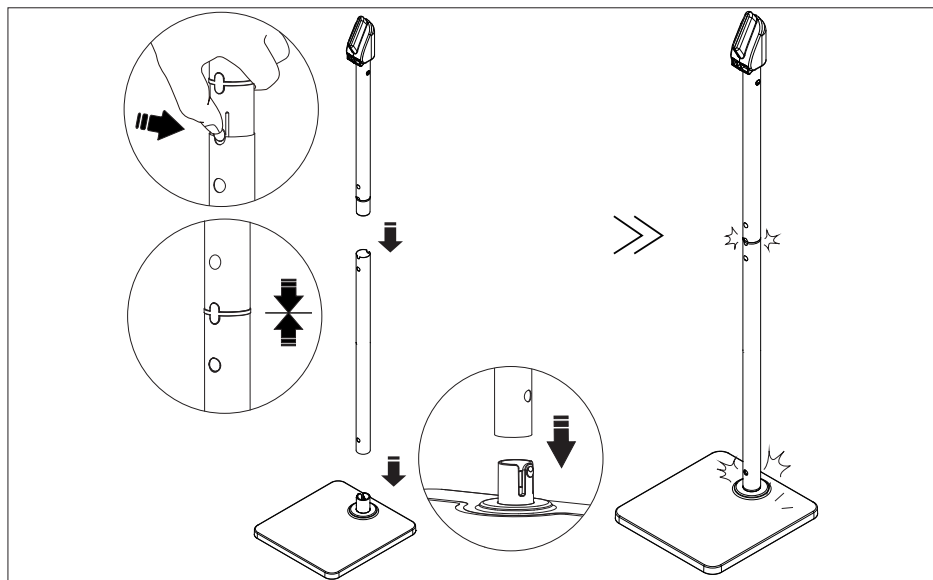

Fig. 3 – Stand mounting
- ▶ Assemble the parts as shown in Fig. 3.
- ▶ To do this, insert the lower standpipe (19), marked **1**, into the stand (17) and then the upper standpipe (18), marked **2**, into the lower standpipe.
- ▶ Attach the accessory holder (16) to the upper standpipe (18).
- ▶ Charge your vacuum cleaner using the mains power adapter (9) supplied (see Fig. 3–5).